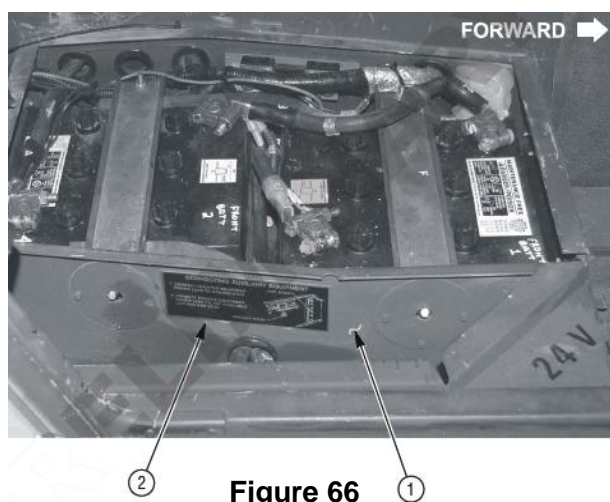

Figure 66
gg. Installation of Batteries and Battery Box Decal. Refer to TM 9-2320-387-24-1, Chapter 4, Task Para 4-73, Page 4-126 and **Figure 66** contained in these instructions.
(1) Install 6437404-01M1 Decal/Battery Box Data Plate (2) on outer battery box side panel (1) as shown in **Figure 66**.
(2) Follow decal instructions and electrical diagram for power connections, as shown in **Figure 66** and **67**.